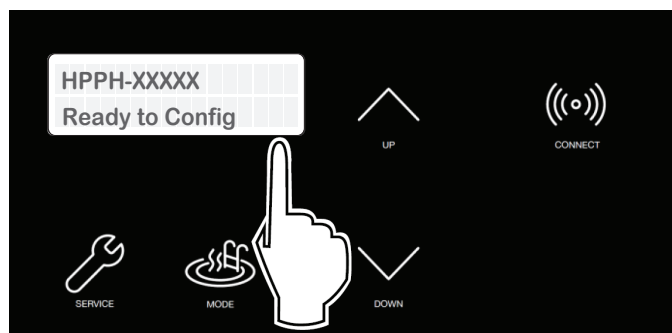

Figure 76. Wi-Fi Ready to Configure and HOTSPOT Identifier
- The CONNECT menu displays the Wi-Fi State, indicating "Ready to Config" wireless connection, and also the HOTSPOT identifier. See Figure 76.